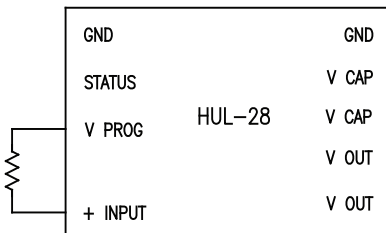
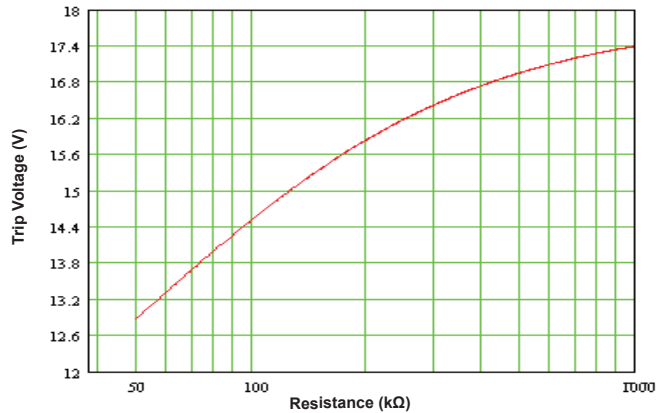

Figure A5. External resistor method for obtaining a trip voltage smaller than 18V
Figure A6. Trip voltage as a function of resistance connected between V_{PROG} and +INPUT
- a. For a trip voltage smaller than 18V, connect a resistor between V_{PROG} and +INPUT as shown in figure A5. The trip voltage can be estimated from figure A6.